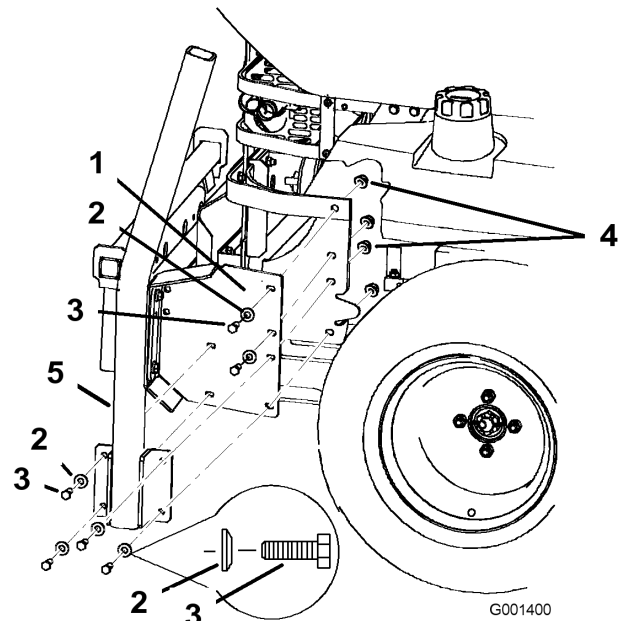

Figure 12
6. Remove the bolts, nuts, and washers holding the roll bar to one side of the machine. Discard the nuts, bolts, and washers (Figure 12).
7. Install the bagger side plate and the roll bar section to the side of the machine using 4 bolts (3/8 x 1-1/2 inches), 4 curved washers (3/8 inch), and 4 flange nuts (3/8 inch) (Figure 12).
8. Repeat the steps above for the opposite side (Figure 12).
4. Tighten the side brackets to the side of the mower (Figure 12).